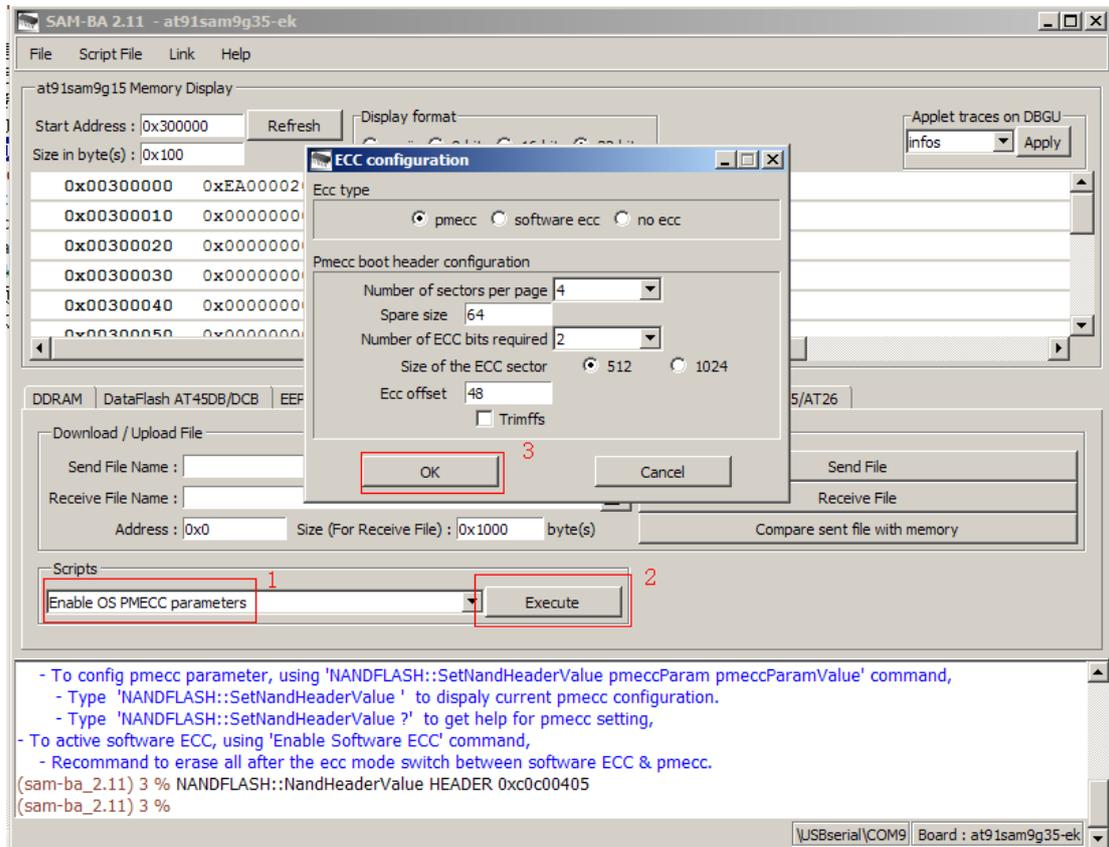

Figure 5-9
(3) Select Enable OS PMECC parameters in Scripts tab, then click Execute, using the default option, click “OK” directly (Note: there cannot check Trimffs). Refer to figure 5-9: